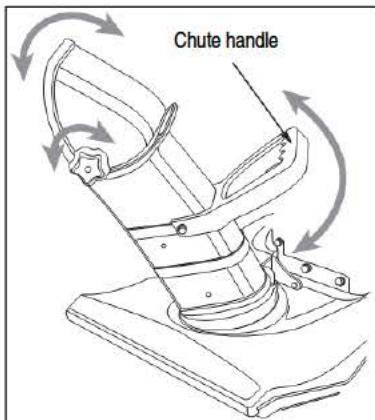

Figure 10
6. Loosen the knobs found on the top of the chute assembly and pivot the upper chute up or down to the desired angle. Tighten the knobs before operating the snow thrower. See figure 10.
7. Use the chute handle to position the chute to the direction you want to throw the snow. See figure 10.